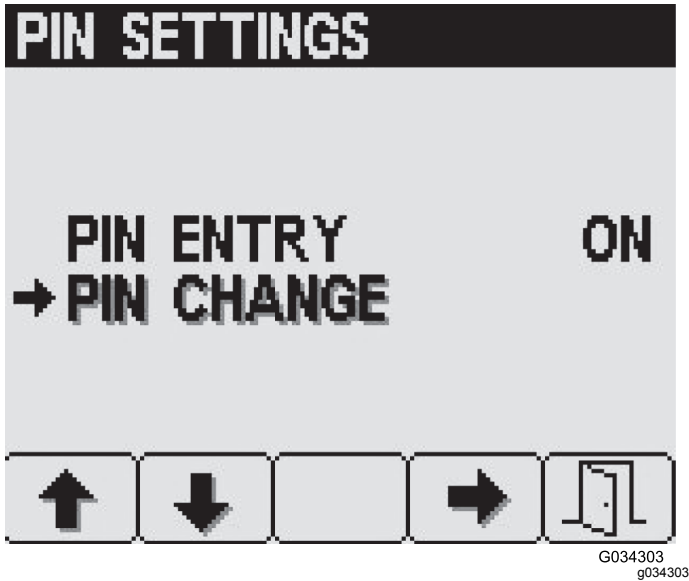

Figure 34
3. From the PIN Settings screen, press button 2 to navigate to the PIN Change option, then press button 4 to select PIN Change (Figure 34).